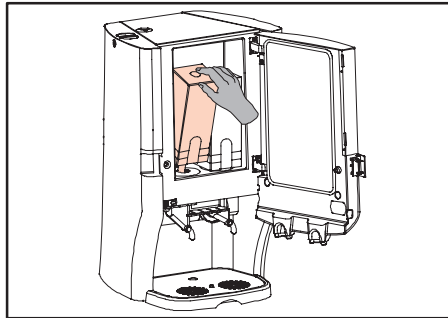

Fig. 86 Removing/replacing ingredient pack
2. Remove the ingredient packs (fig. 86).